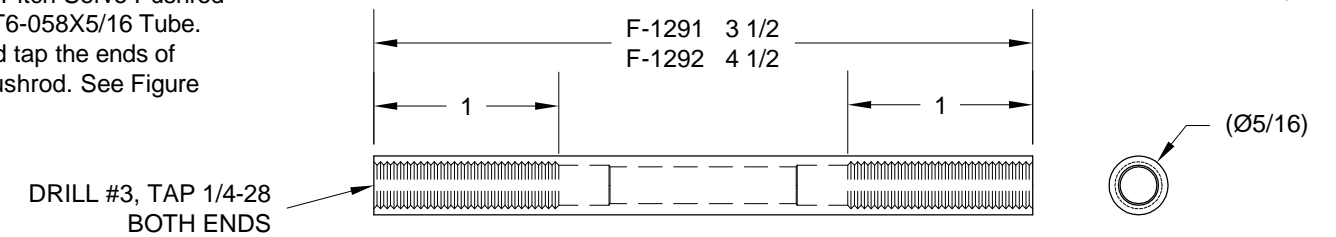

FIGURE 2: MAKING THE PUSHROD TUBES
Step 6: Cut the F-1291 Roll Servo Pushrod and the F-1292 Pitch Servo Pushrod from AT6-058X5/16 Tube. Drill and tap the ends of each pushrod. See Figure 2.